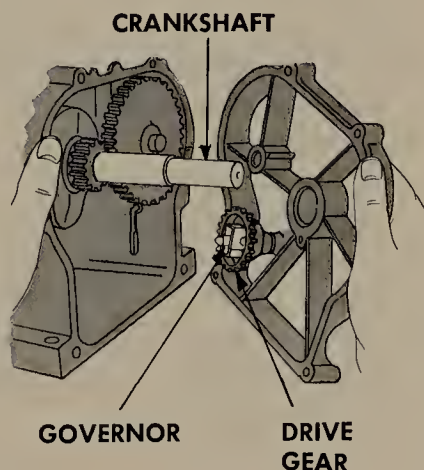

FIGURE 15.39 Location of an internally mounted governor on one engine.
3. *Internally Mounted Centrifugal Governor.* If the governor is mounted inside the engine crankcase, as shown in Fig. 15.39, you will have to disassemble the engine to get to the governor. These governors are often somewhat more complicated in design, so you should be especially careful to note the relationship of all parts before attempting to disassemble the governor.